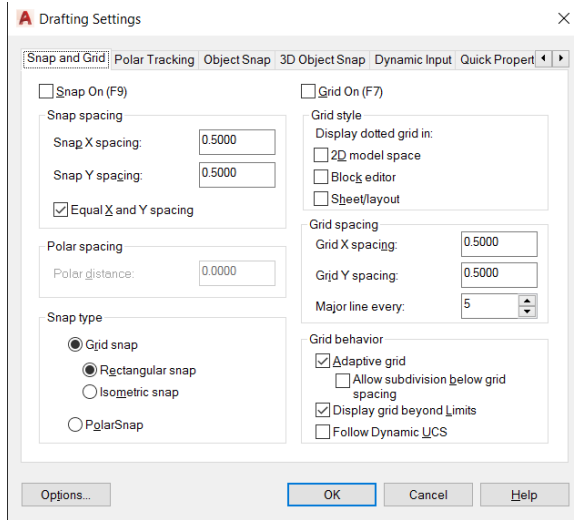

FIGURE 3-3: Snap and Grid settings.
The Snap and Grid tab in the Drafting Settings dialog box appears, as shown in Figure 3-3. Note that AutoCAD LT lacks some options that are present in the full version of AutoCAD.
- b. Change the values in the Drafting Settings dialog box to match those in Figure 3-3, and click **OK** when you're finished: